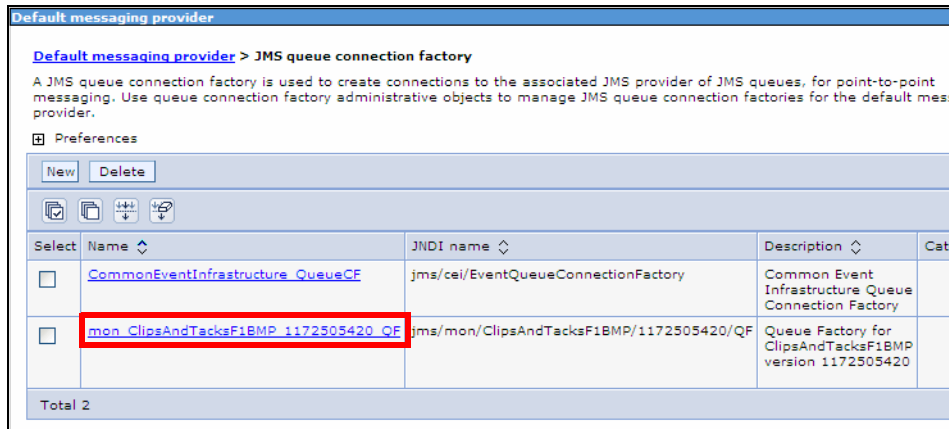

Figure 14-22 JMS queue connection factory for ClipsAndTacksF1BMP model
- ▶ On the next panel (Figure 14-22), select: